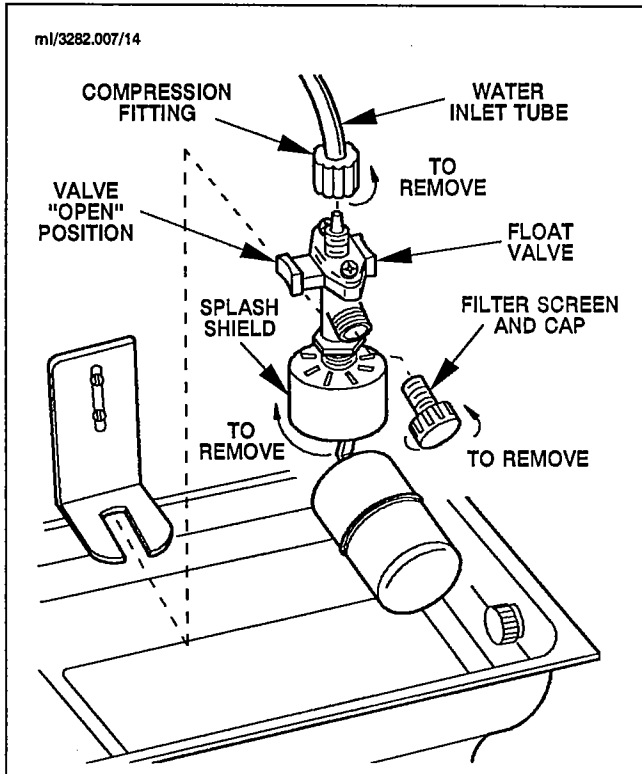

FIGURE 12. FLOAT VALVE REMOVAL
### Remove Float Valve (Figure 12)
1. Turn on water to ice machine at water service valve and ensure float valve is open, Figure 12.
6. Shut off water at float valve. See Figure 12.